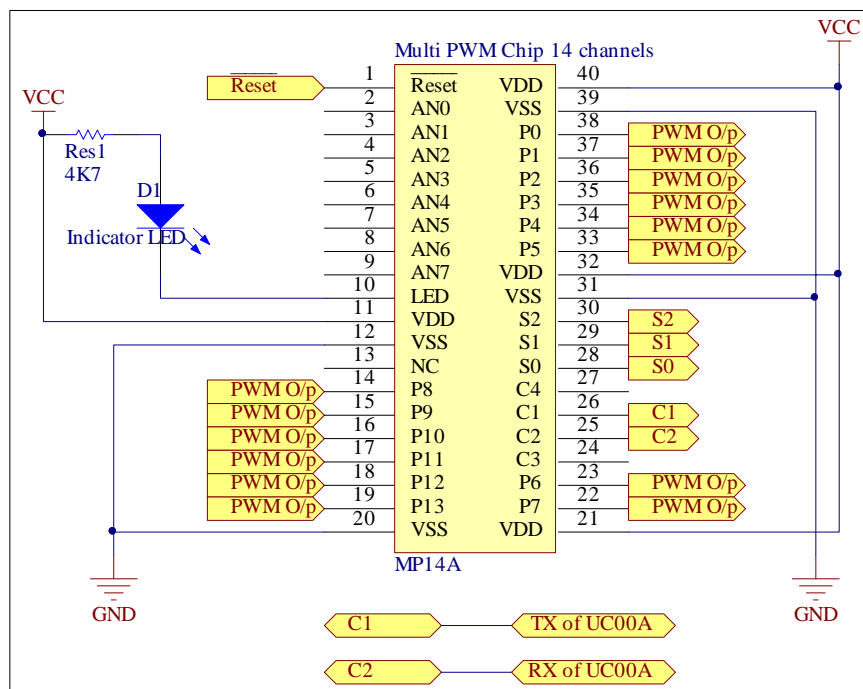

Figure 5-6 Example circuit connection to computer USB port through USB to UART converter, UC00A.
Figure 5-6 above is example connection of multi PWM chip. S2, S1 and S0 are connecting to switch for PWM chip mode selection. C1, which is UART Receive (RX) pin of multi PWM chip is connect to UART Transmit (TX) pin of UC00A. C2, which is UART Transmit (TX) pin of multi PWM chip is connect to UART Receive (RX) pin of UC00A. For more details of UC00A, please refer: